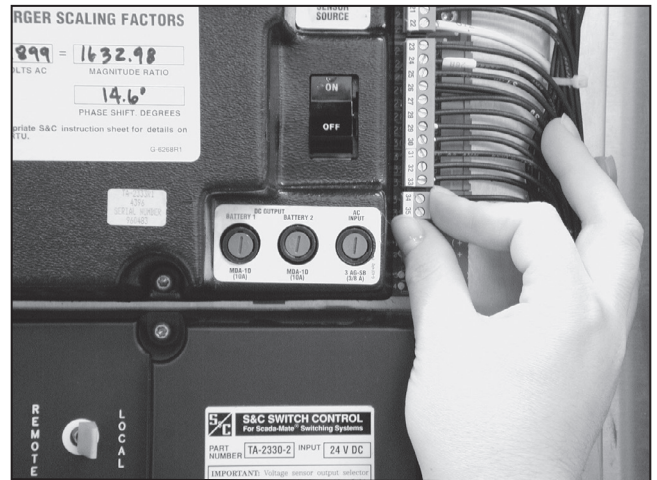

Figure 8. Remove the two-pin terminal strip.
STEP 6. When a 120-Vac control power source is used, de-energize the source. Then, carefully remove the two-pin terminal strip from the battery charger board if applicable. See Figure 8.